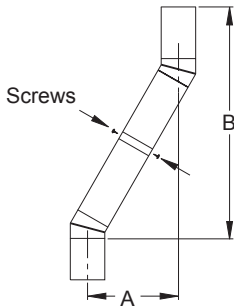

Figure 9 - Elbow Offset
Continue to assemble chimney sections as outlined above, making sure that both the inner and outer pipe sections are locked together. When installing double wall snap-lock chimney together, it is important to assure the joint between the chimney sections is locked. Check by pulling chimney upward after locking. The chimney will not come apart if properly locked. It is not necessary to add screws to keep the chimney together (exception, see Figure 9, page 8).
4. All pipe connections between the offset and return must be secured with two screws on the outer pipe only (see Figure 9, page 10). Do not penetrate the inner stainless.